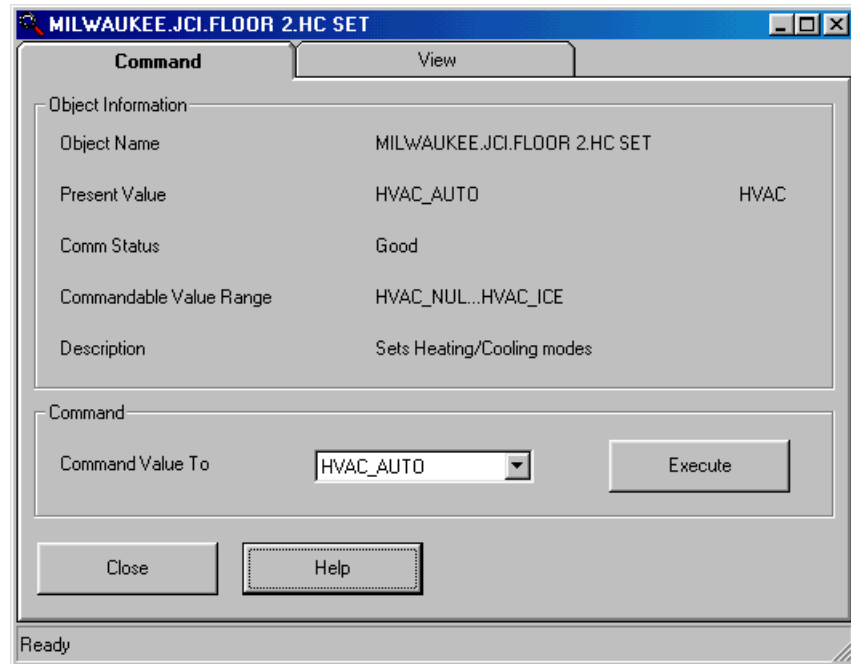

Figure D-4: M-Inspector Window with Command Tab Visible
2. From the Actions menu, select Inspect, or click the Inspect toolbar button () , or right-click on the tag or object and select Inspect from the pop-up menu. The M-Inspector window appears with the complete hierarchical path of the tag or object displayed in its Title bar (Figure D-4). If the tag or object can be commanded and the user has the proper access rights, the Command tab is selected. Otherwise, only the View tab appears in the M-Inspector window (see *Viewing an LN OPC Tag*).